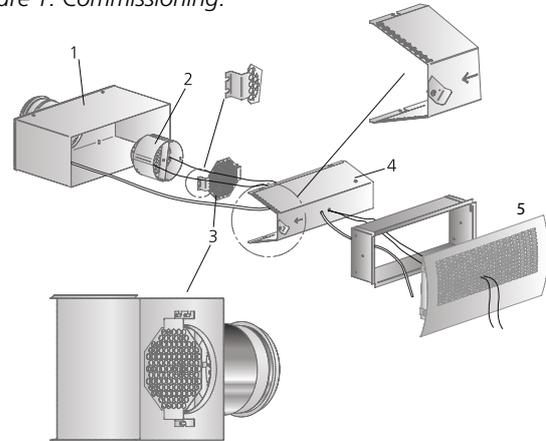

Figure 2. Installation.
4. The assembly and dismantling of the component parts are shown in Figure 2.